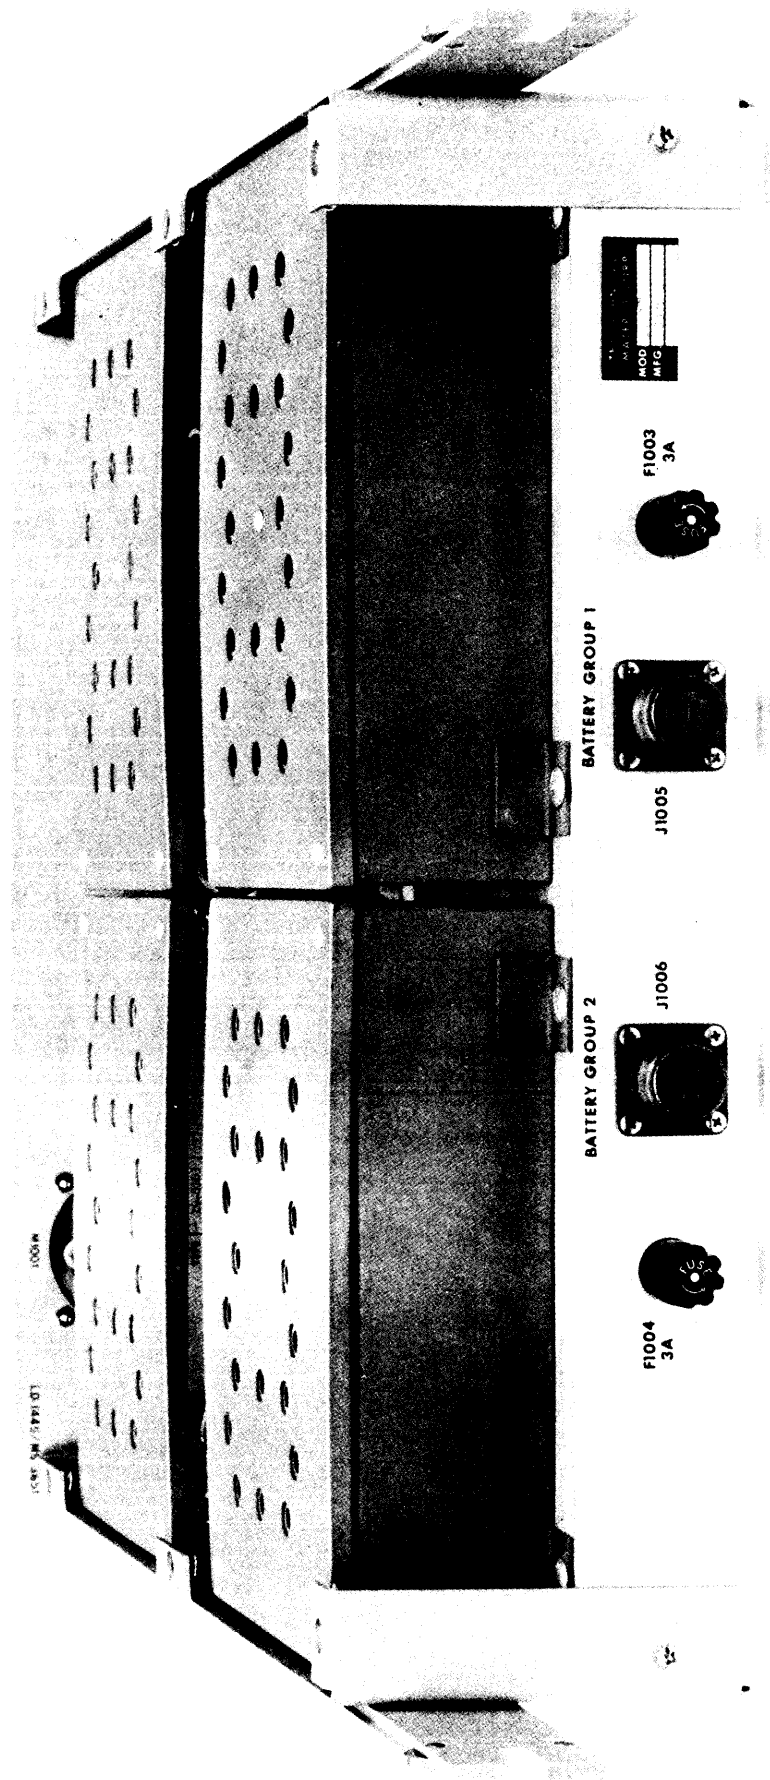

Figure 2-1. Battery Power Supply, Rear View
d. Make necessary electrical connections. If one external unit is to be connected to BPS, connect applicable battery power cable between BATTERY GROUP-1 jack J1005 and external unit. If more than one external unit is to be connected to the BPS, connect applicable battery power cable between BATTERY GROUP-2 jack J1006 and external unit. (See figure 2-1).
Maintenance of the BPS consists of checking connection and condition of interconnecting cables, replacing defective fuses, and insuring cleanliness of the unit. See figures 2-1, 5-1, and 5-2 for identification and location of connectors and fuses.